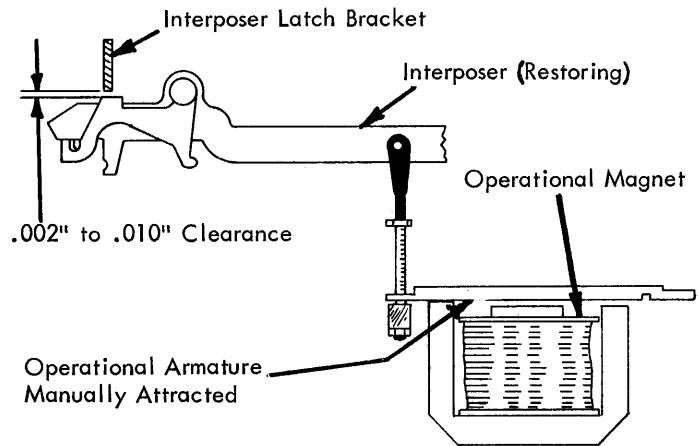

FIGURE 173.5. Check, Trip Link
4. Pull Link (Fig. 173.5) - Adjust the operational pull links so that a .002" to .010" clearance exists between the interposer latch bracket and the interposer latch at the point of relating.